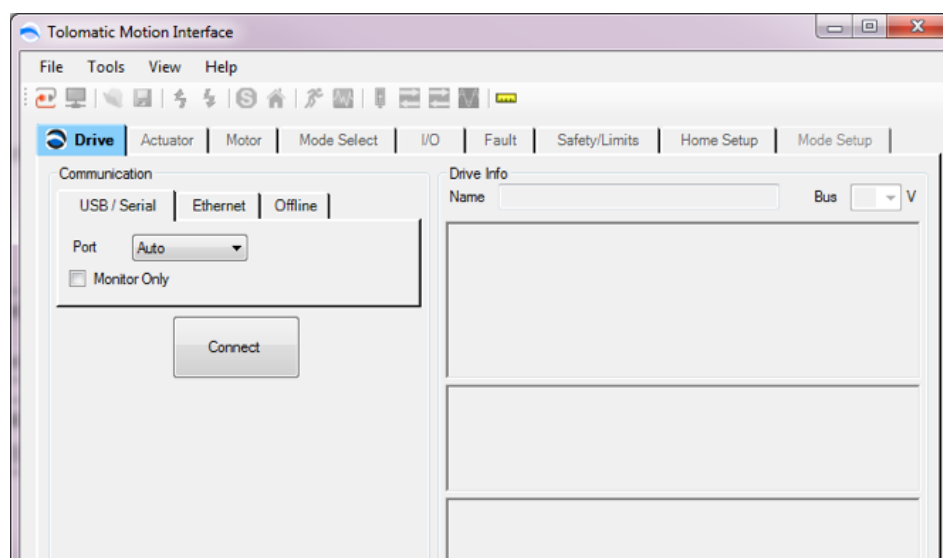

Figure 5-1: Drive Tab Showing ACS Drive Disconnected
1. After the User Units have been selected on initial startup, and from then on once the TMI is launched, the software will automatically default to the Drive tab shown in Figure 5-1 below.